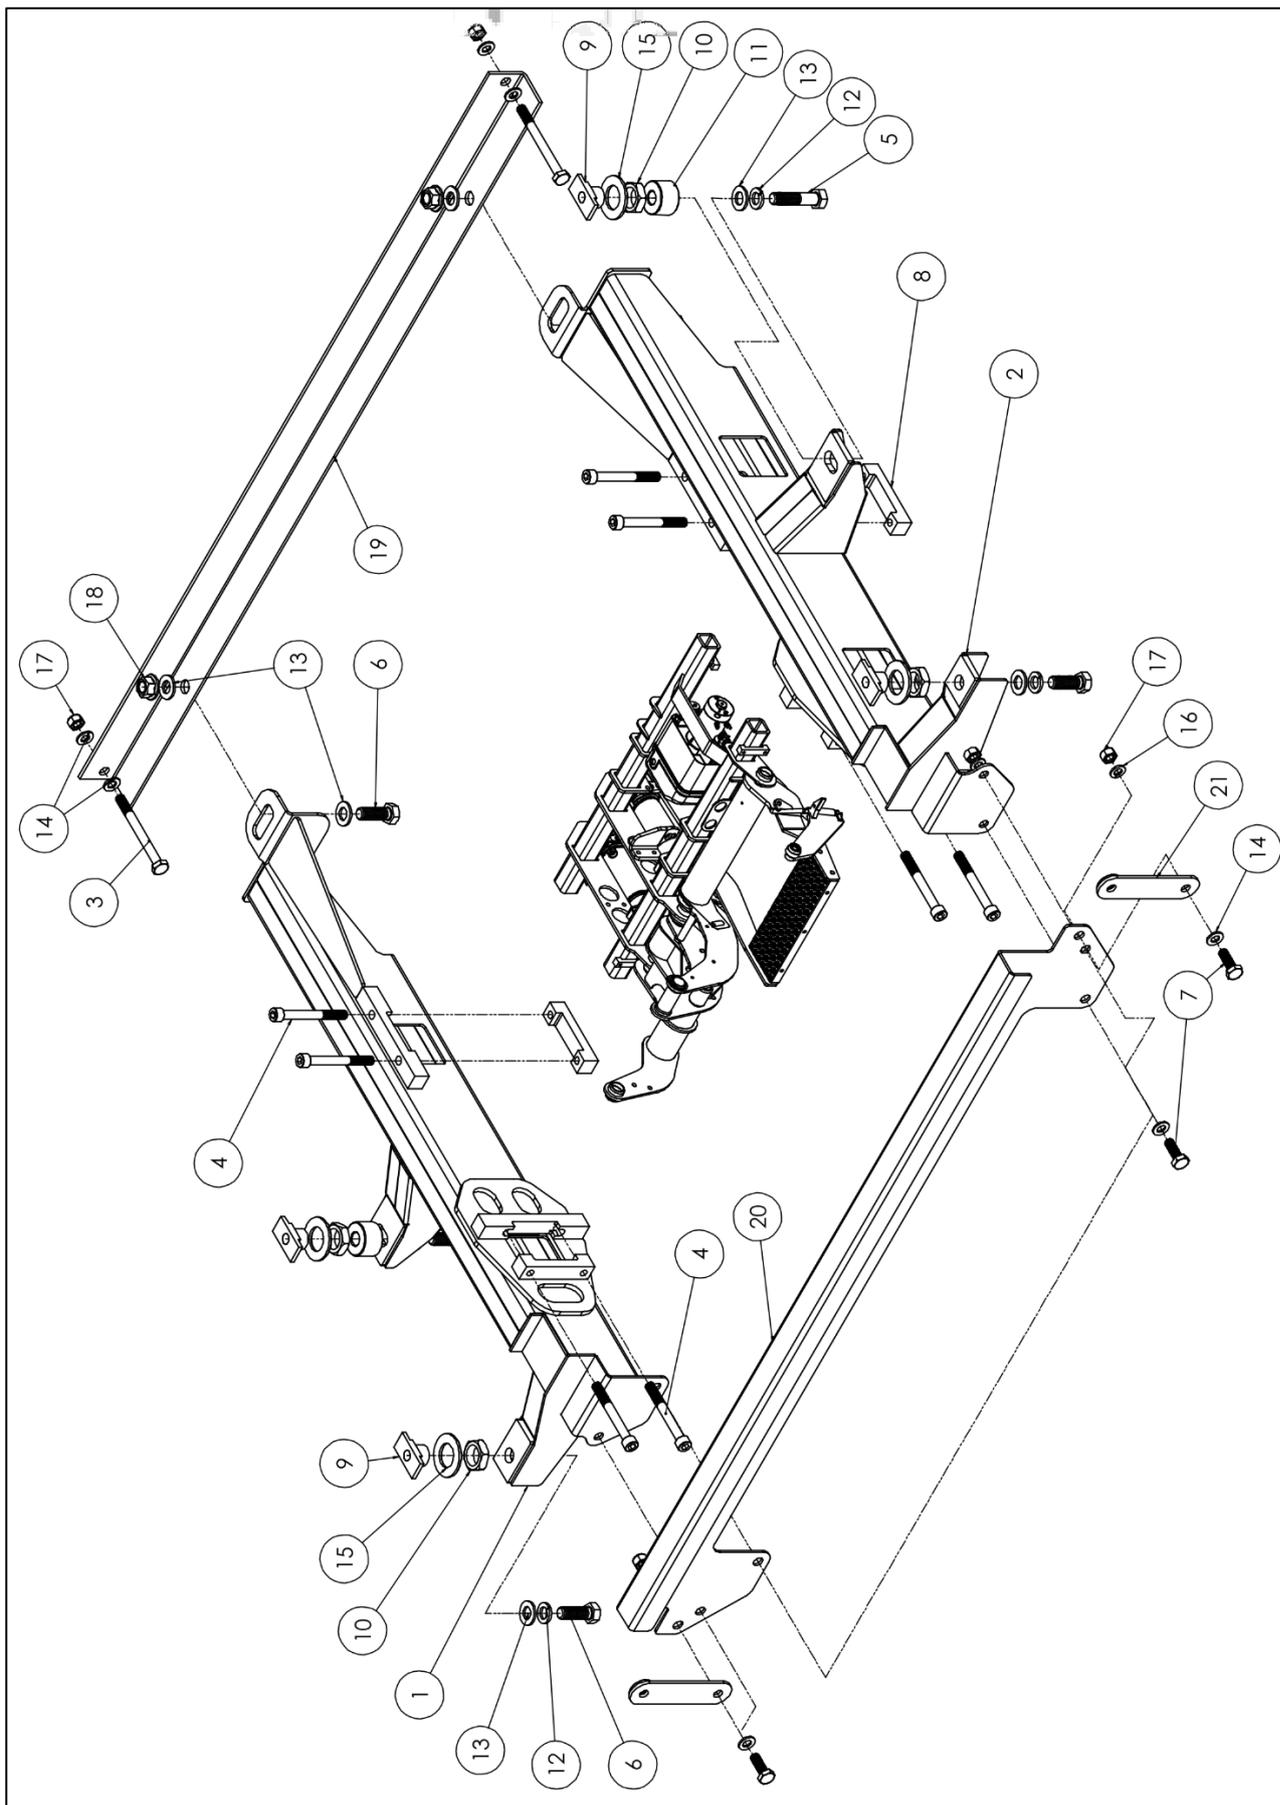

Figure 12
- Pre-install the installation adapters on the liftgate's lifting gear as shown in Fig. 12, tightening the fittings until hand-tight.
- Installation is the same for both vehicle types and Fig. 12 applies to both.